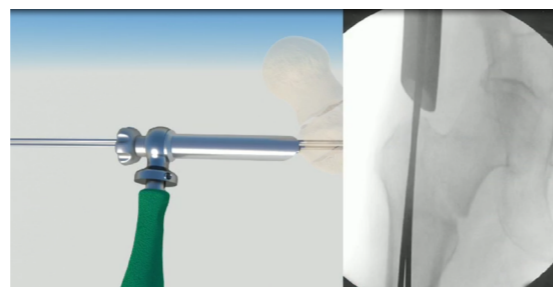

Figure 4a
- Confirm the correct position of the guide needle through positive and lateral fluoroscopy. If the position is not ideal, rotate the honeycomb guide to find the correct position and drill in another correct guide needle. Select $\Phi 3.2 \times 400$ guide pins to prevent cross interference during insertion (Figure 4a).